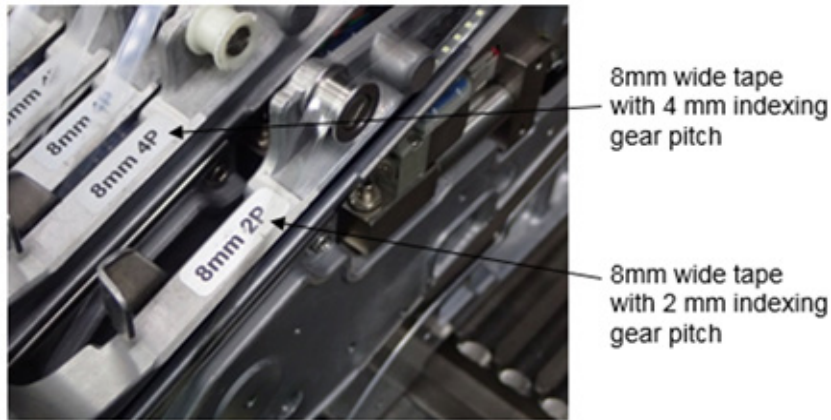

Figure 21. Example of 8mm width tape with 4mm and 2mm indexing gear pitch. Same principle for 12mm width tape.
- b. *Use a smaller indexing gear pitch.* A 2mm indexing gear pitch, as shown in Figure 21, will have smoother tape movement through the feeder system than a 4mm indexing gear pitch. Same principle applies for larger tape width.